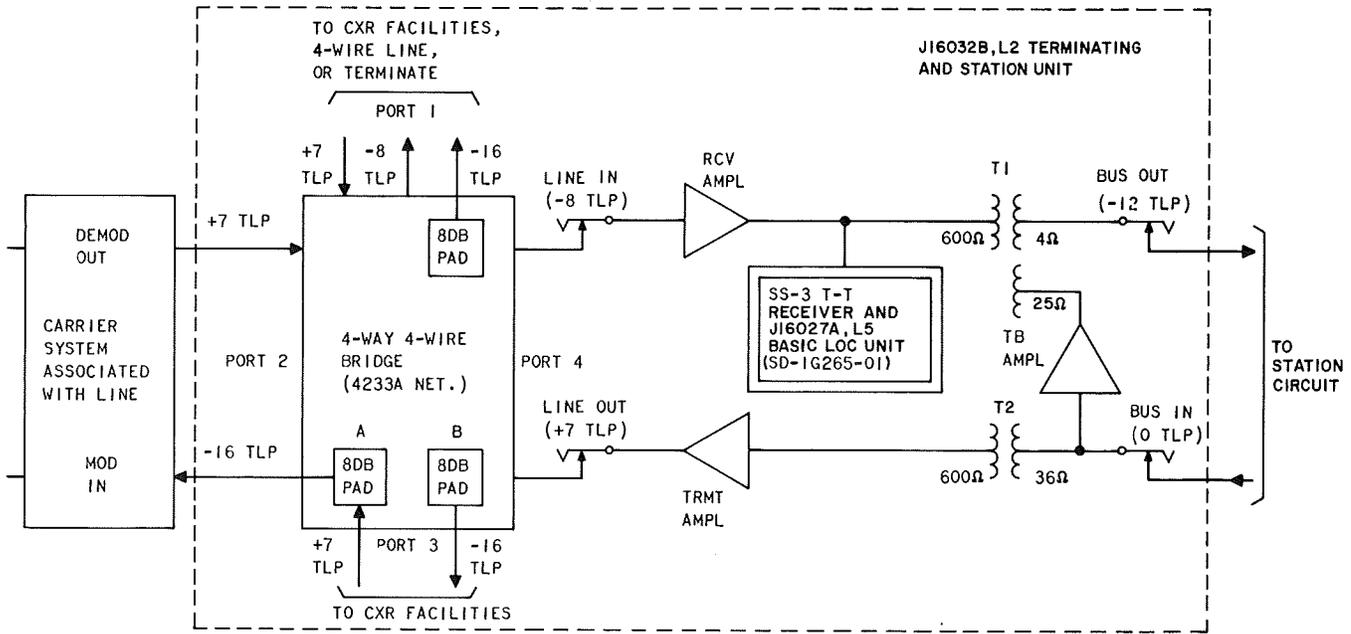

Fig. 2—Terminating and Station Unit J16032B, L2
**2.05** Each terminating and station unit J1G032B, L2 provided at an order wire location should be adjusted as follows (Fig. 2):
- (1) Set an oscillator for 1000 Hz and adjust the output for 0 dBm using a 600-ohm detector.
- (2) Insert the oscillator output into the BUS IN jack and the detector input into the BUS OUT jack.
- (3) Adjust the TB amplifier to obtain a -12 dBm reading at the detector.
- (4) Move the detector input from BUS OUT jack to the LINE OUT jack.
- (5) Adjust the TRMT amplifier to obtain a +7 dBm reading at the detector.
- (6) Remove the detector from the LINE OUT jack.
**Note:** At some installations, it may be necessary to arrange for assistance in performing Step (7).
- (7) Individually adjust the GN ADJ pads for ports 2 and 3 (A and B on Fig. 2) on the 4233A network to obtain a detector reading of -16 dBm at each carrier terminal input.
- (8) Remove the oscillator from the BUS IN jack.
- (9) Adjust the oscillator output for a 1000-Hz tone at a -8 dBm using the 600-ohm detector.
- (10) Insert the oscillator output into the LINE IN jack and the detector input into the BUS OUT jack.
- (11) Adjust the RCV amplifier to obtain a -12 dBm reading at the detector.
- (12) Disconnect and remove the test equipment.